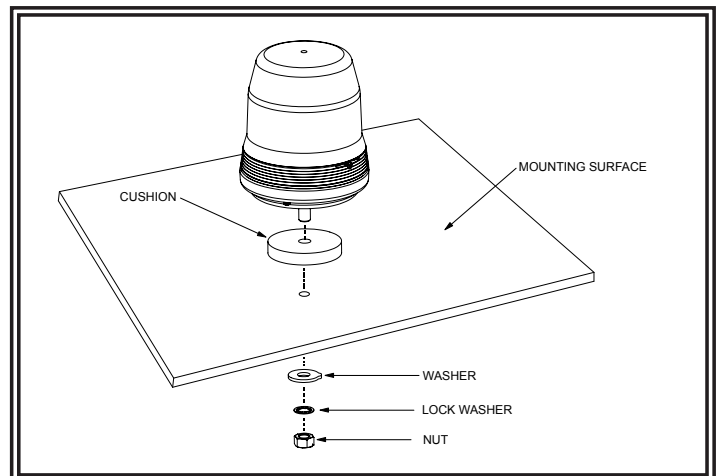

FIGURE 3
6. Mount the beacon, using the hole drilled in step 4. Secure the unit using the previously removed hardware. As shown in FIGURE 3.